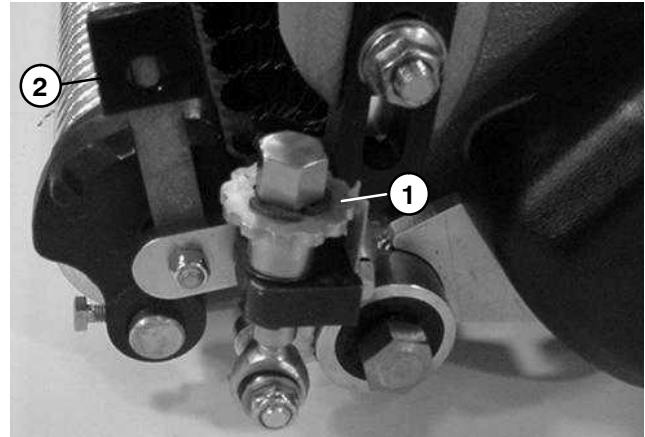

Figure 3
3. Use quick-up levers on both sides of the mower to lower the groomer reel to the grooming position (Fig. 3).
4. On one end of the groomer reel, measure the distance from the lowest tip of the groomer blade to the working surface. Lift and turn height adjustment knob to raise or lower the blade tip (Fig. 3). Each notch on the adjustment knob changes the groomer height approximately 0.003 inch (0.08 mm).